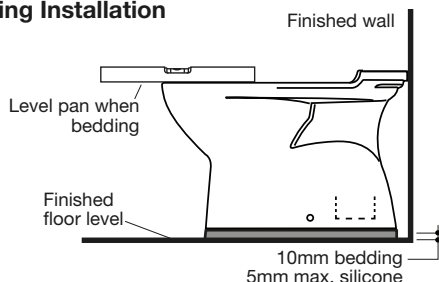

Fig. 2
- 4- Position pan and connect with pan connector and level pan into bedding mixture, so that the back of the foot of the pan is approximately 10mm above the finished floor. It is recommended that wedges are used to support the foot of the pan during the positioning, as detailed in Fig. 2.